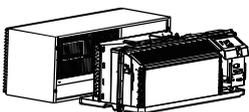

Fig.8
- Lift unit level and slide unit into wall sleeve until firmly against front of wall sleeve and secure with 4 long screws through the unit flange holes. (See Fig.8 and Fig.9)